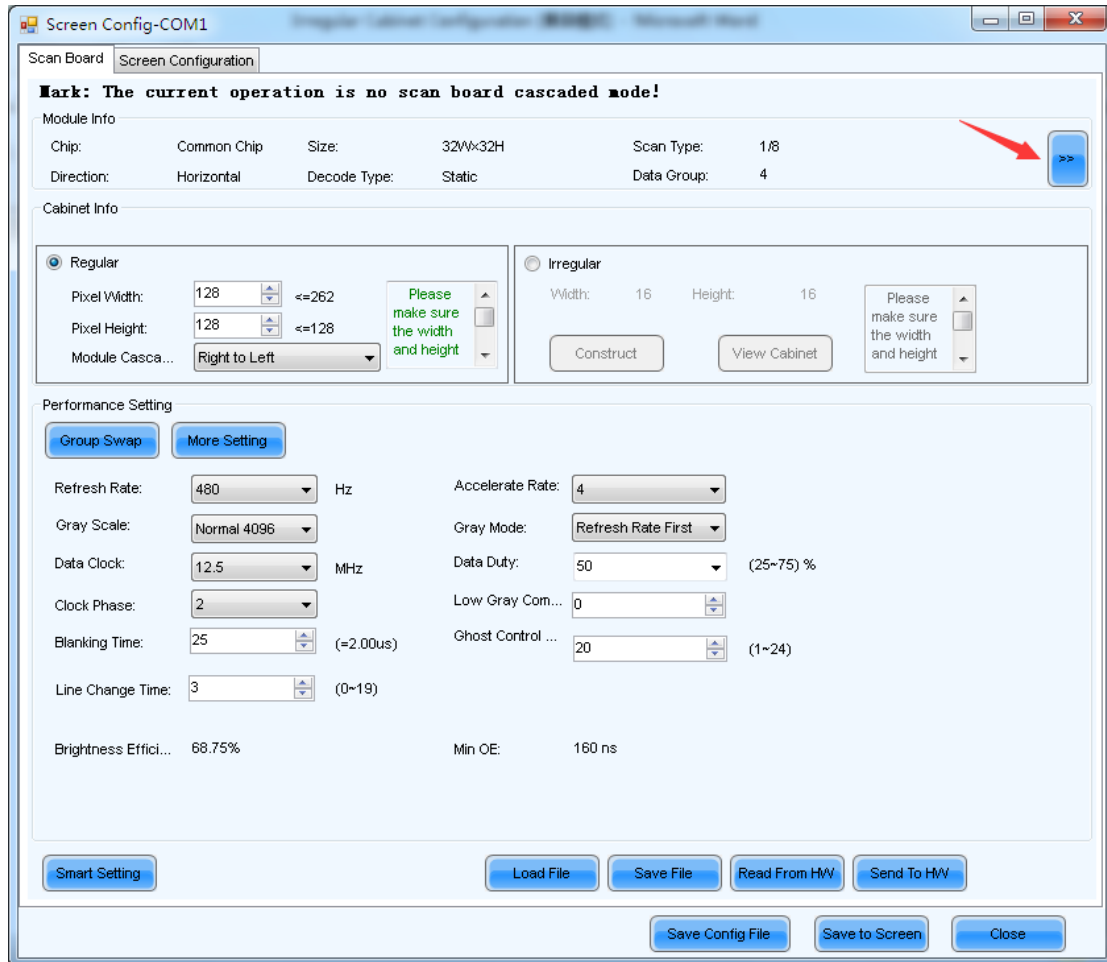
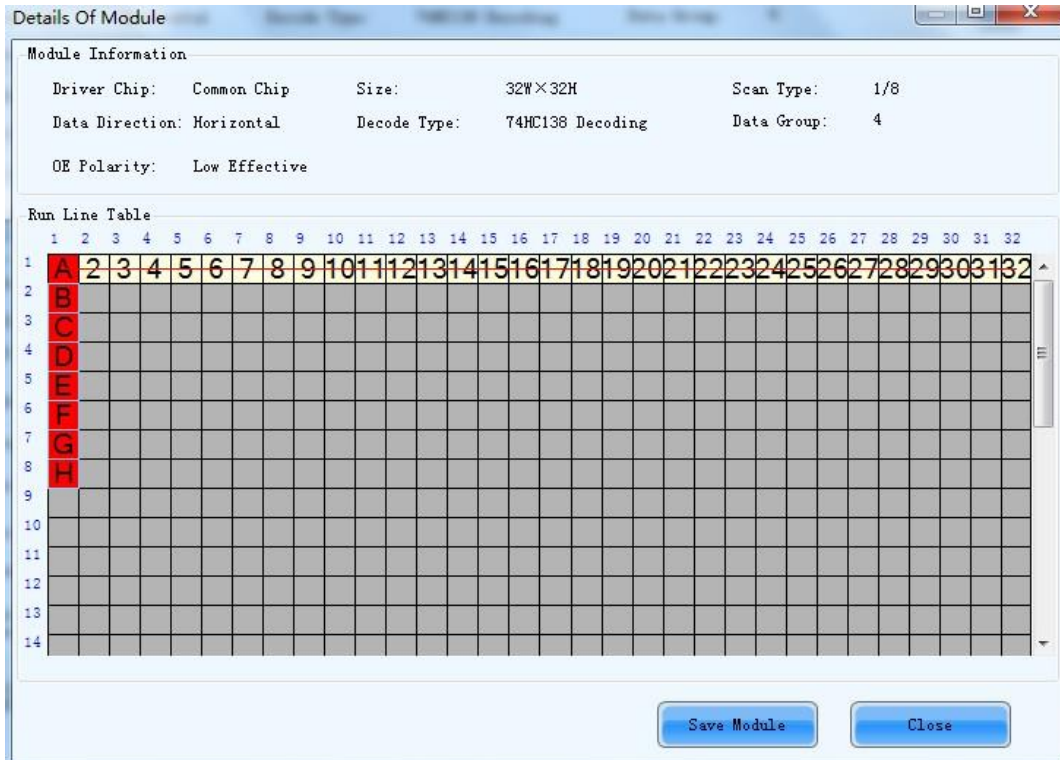

Figure 2 Scan Board page
Figure 3 Details of module page
2. In the *Scan Board* page, click the *Hide/Show* button to open the Details Of Module page. The *Hide/Show* button is the one circled in Figure 2 and the Details Of Module page is as shown in Figure 3.